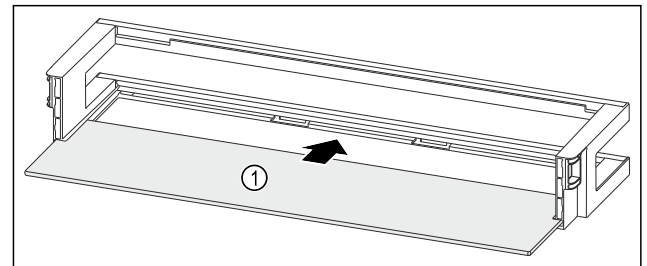

Fig. 86 Door racks with shelf
- Push the shelf Fig. 86 (1) into the side cutouts.